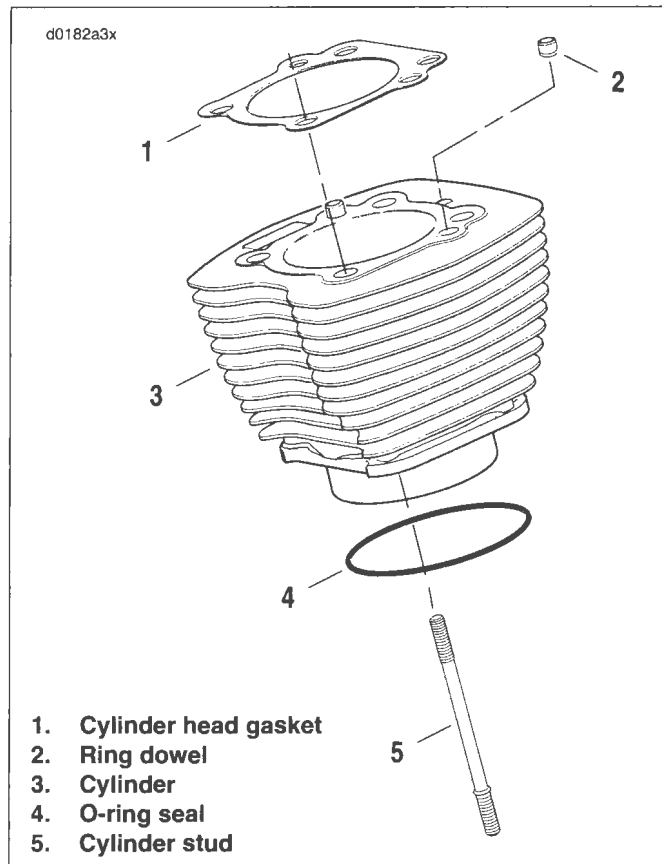

Figure 3-113. Cylinder Assembly
1. See Figure 3-113. Scrape old gasket material from the machined surface at the top of the cylinder (3). Old gasket (1) material left on the mating surface will cause leaks.